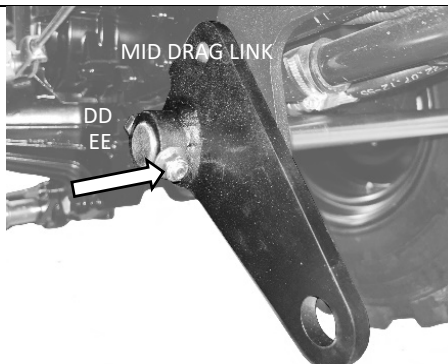

Figure 7A
6. Install the Mid Drag Link LH and the Mid Drag Link RH (items 23 & 25) as indicated (figures 7A & 8A). Align the corresponding holes and secure both ends using bolts DD and nuts EE.